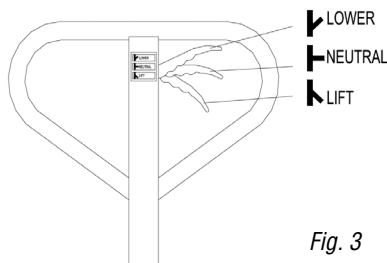

Fig. 3
On the handle tube (#1) of this pallet jack, you can find the control lever (#7), which can be regulated in three positions (Fig. 3).
1. Set the control lever (Fig. 3) to the lower position. If the fork frame does not lower, turn the nut (Fig. 2-3) clockwise until the fork frame lowers.